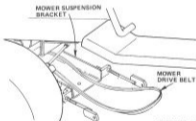

FIGURE 41
2. Pull Mower Drive Belt over Front Mower Suspension Bracket (Fig. 41).